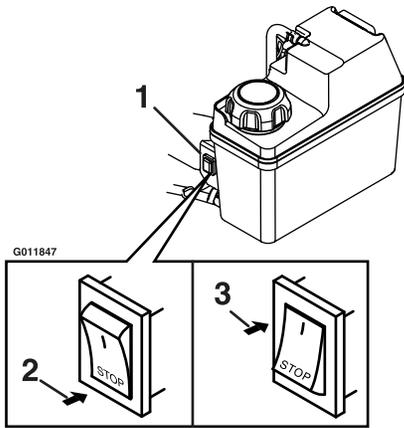
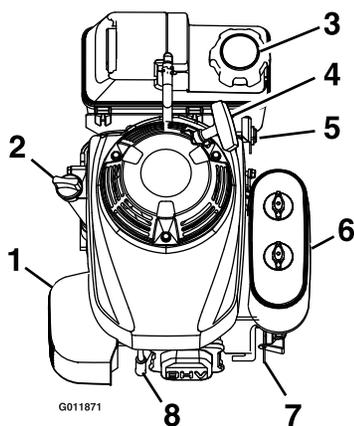
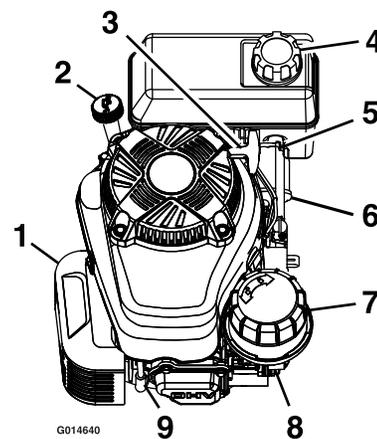

Figure 5
Figure 9
Figure 10
Located on the front left side of the engine as shown in Figure 9.
Located on the left side of the engine in front of the fuel tank as shown in Figure 5. The engine stop switch is used on ECXHNBBC21 and ECXKABBC21 (see Figure 9 and Figure 10).
3. **For ECXKABBC21 Units:** Turn the engine stop switch to “|” (see Figure 5).
- **For units with a Blade Brake Clutch:** Press the switch to “STOP” to kill the engine (see Figure 5).